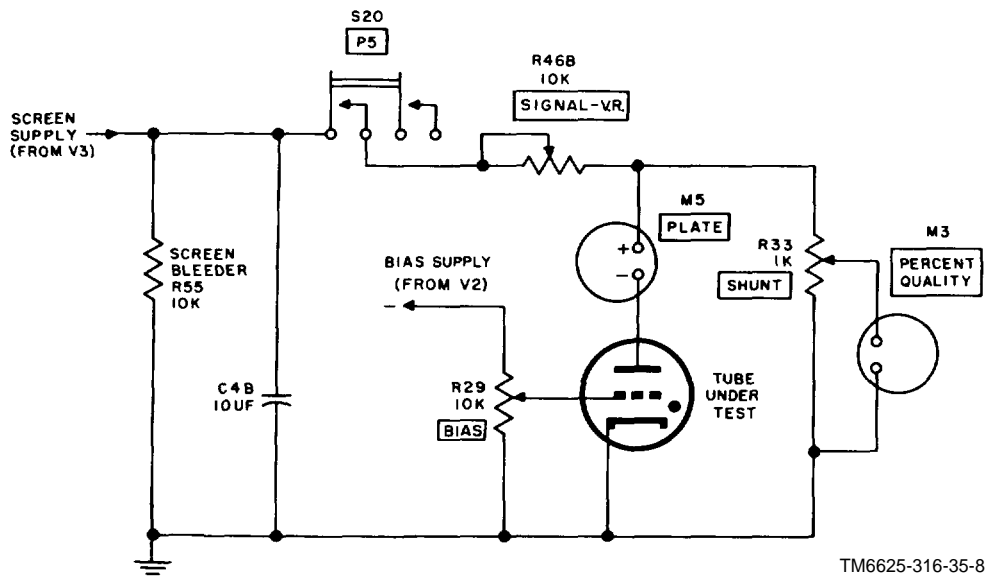

Figure 8. Voltage regulator and thyatron tube test circuit of Test Set, Electron Tube TV-2(\*)/U, Simplified schematic diagram.
(figs. 8 and 26)
b. The voltage regulator and thyatron tube test circuit used in Test Set, Electron Tube TV-2(\*)/U is shown in figures 8 and 26. Filtered voltage taken from bleeder resistor R55 of the screen supply circuit is fed to the plate of the tube under test through PRESS TO TEST P5 switch S20 and SIGNAL-V.R. potentiometer R46B. The voltage drop across the tube is measured by PERCENT QUALITY meter M3, which is placed in parallel with quality SHUNT potentiometer RX3. The load current through the tube under test is indicated on PLATE meter M5. Tube V 1 is used as a meter rectifier for meter